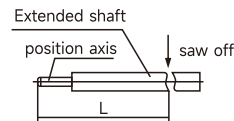

Figure 38
(2) As shown in Figure 38, screw the threaded end of the positioning shaft into the screw hole of the extended shaft and tighten it in place. Measure the length of (L) on the extended shaft along with the positioning shaft, and then cut off the excess length.